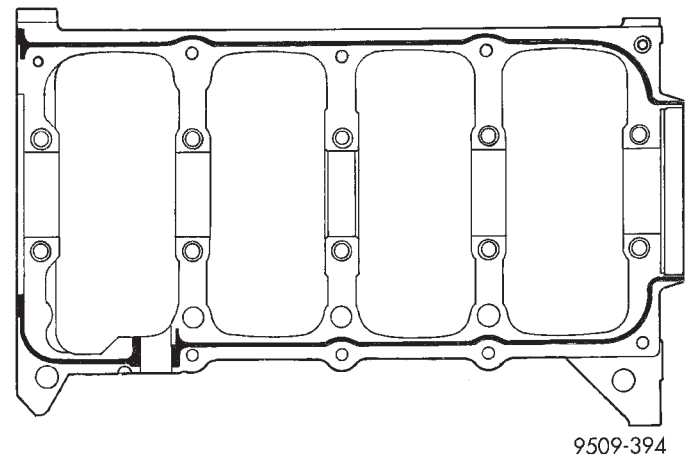

Fig. 12 Main Bearing Caps/Bedplate Sealing
(4) Apply 1.5 to 2.0 mm (0.059 to 0.078 in.) bead of anaerobic sealer Mopar® Torque Cure Gasket Maker to cylinder block as shown in (Fig. 12).